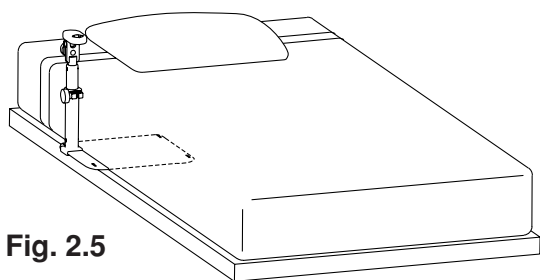

Fig. 2.5
- Position the base plate of the mounting accessory between the mattress and frame or box-spring. The mounting post should be positioned toward the head of the bed. (See Fig. 2.5)